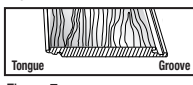
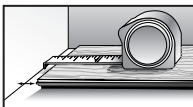

Figure 7
Figure 8
- Starting from the **LEFT** with the tongue facing the wall (Figure 7), carefully place the first board in place (Figure 8). Use wedges or 1/2" (13 mm) scrap (Figure 9) along the wall to hold plank in place while allowing the required expansion space.
- Starting from the **LEFT** with the tongue facing the wall, carefully place the first board in place. Use wedges or 1/4" (6 mm) scrap (Figures 7, 8, 9) along the wall to hold plank in place while allowing the required expansion space.